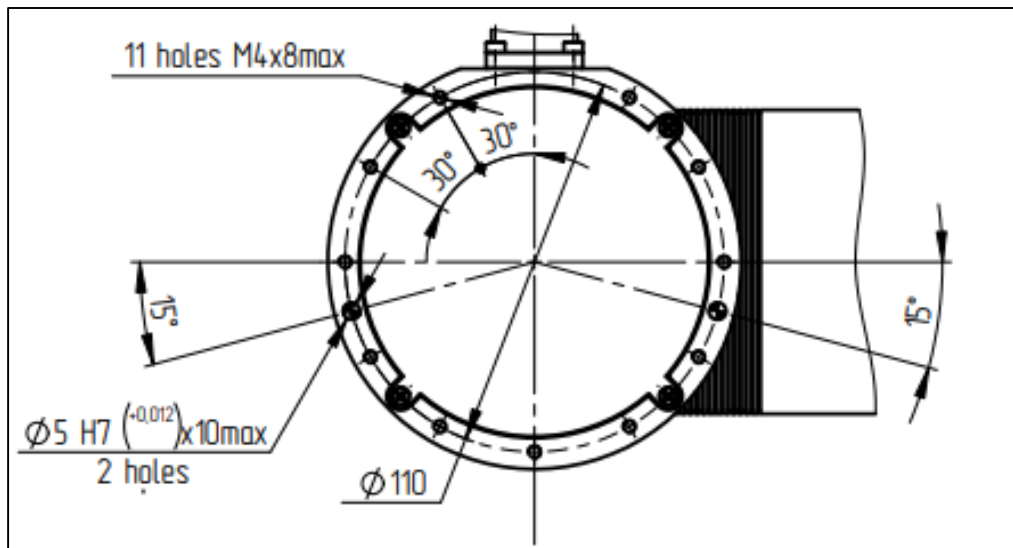

Figure 2-2: Mounting the arm by Method 2
- Use the 2 pins and 11 bolts (see **Figure 2-2**) to screw the arm base down to your mounting surface without a transition plate.